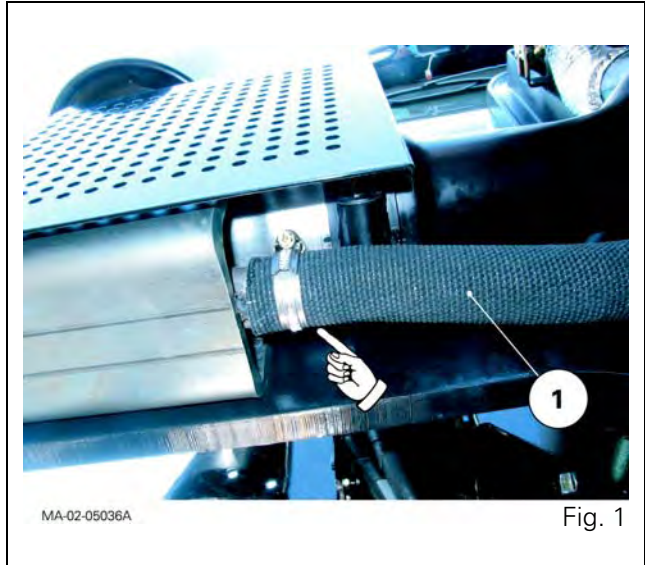
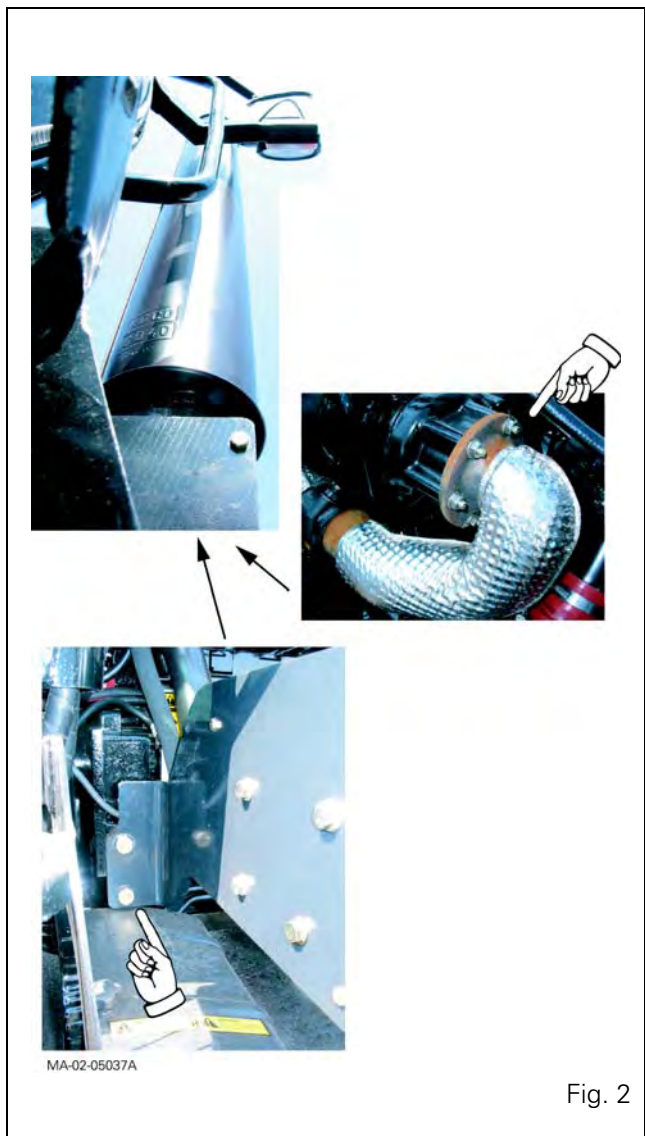

Fig. 1
Fig. 2
9. Disconnect the flexible sleeve (1) (Fig. 1) fitted to the suction port. Remove the vertical exhaust assembly (including support Fig. 2).